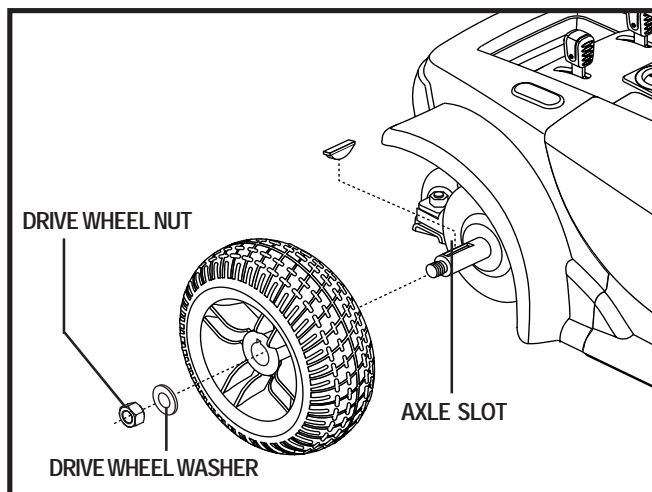

Figure 25. Go-Chair Drive Wheel
3. Remove the drive wheel nut and washer from the axle. See figure 25.